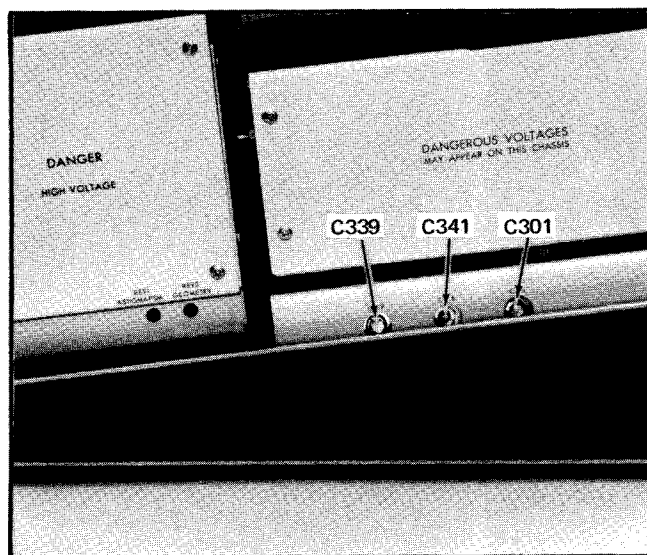

Fig. 5-13. Location of adjustments in step 35.
c. ADJUST—C301, LOOPING BALANCE adjustment, on the left side of the instrument (see Fig. 5-13) if the trace has two loops.
f. ADJUST—C341, H. F. NOISE REJECTION adjustment, (see Fig. 5-13) for minimum high frequency noise. Do not adjust C341 more than a few turns clockwise.
h. ADJUST—C339, 350 V and 1500 V LOOPING COMPENSATION adjustment, (see Fig. 5-13) for minimum width of trace loop.
k. ADJUST—LOOPING COMPENSATION control and C301, LOOPING BALANCE adjustment (see Fig. 5-13), for minimum vertical width of the trace loop.